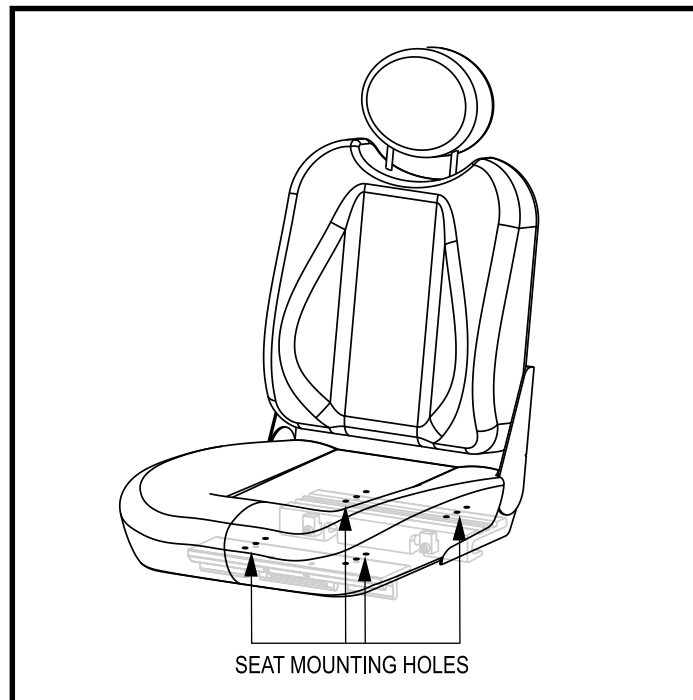

Figure 15. Seat Position Adjustment
6. Reposition the extrusions on a different set of mounting holes. You must move both extrusions the same number of holes either forward or backwards. See figure 15.